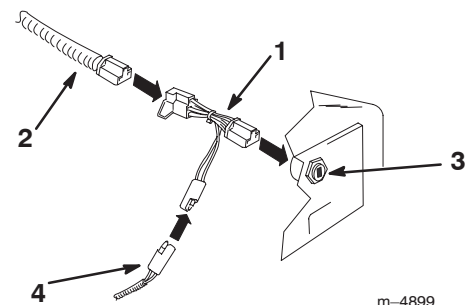
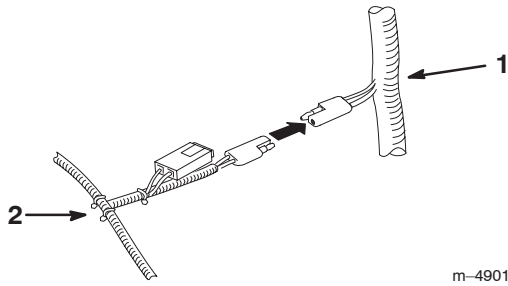

Figure 1
Figure 6
2. Connect the T-wire harness to the main wire harness (Fig. 1).
3. Connect the T-wire harness to the back of the ignition switch (Fig. 1).
1. Connect the connector in the center of the lighting wire harness to the connector on the main wire harness (4-Paw traction units, Fig. 6) or T-wire harness (chain drive traction units, Fig. 1).